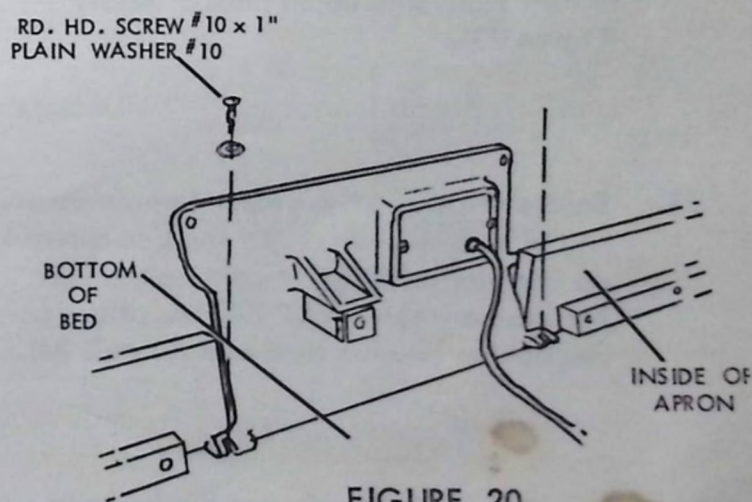

FIGURE 20
30. Attach the two (2) open flange tabs of the goal casting to the bottom of the bed, using hardware shown. (Figure 20)